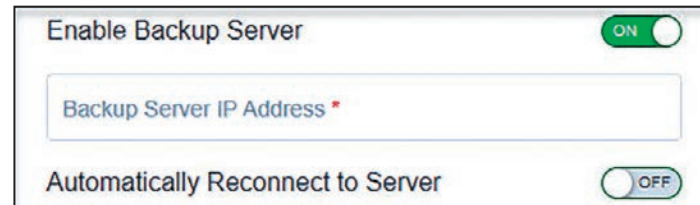

Figure 48. The Backup Server dialog box.
- STEP 8.** (Optional) To configure the R3 Communication Module to send syslog events to a backup server when the connection is lost to the primary server, toggle the **Backup Server** button from the **Off** to **On** position. Additional fields will be displayed. See Figure 48.